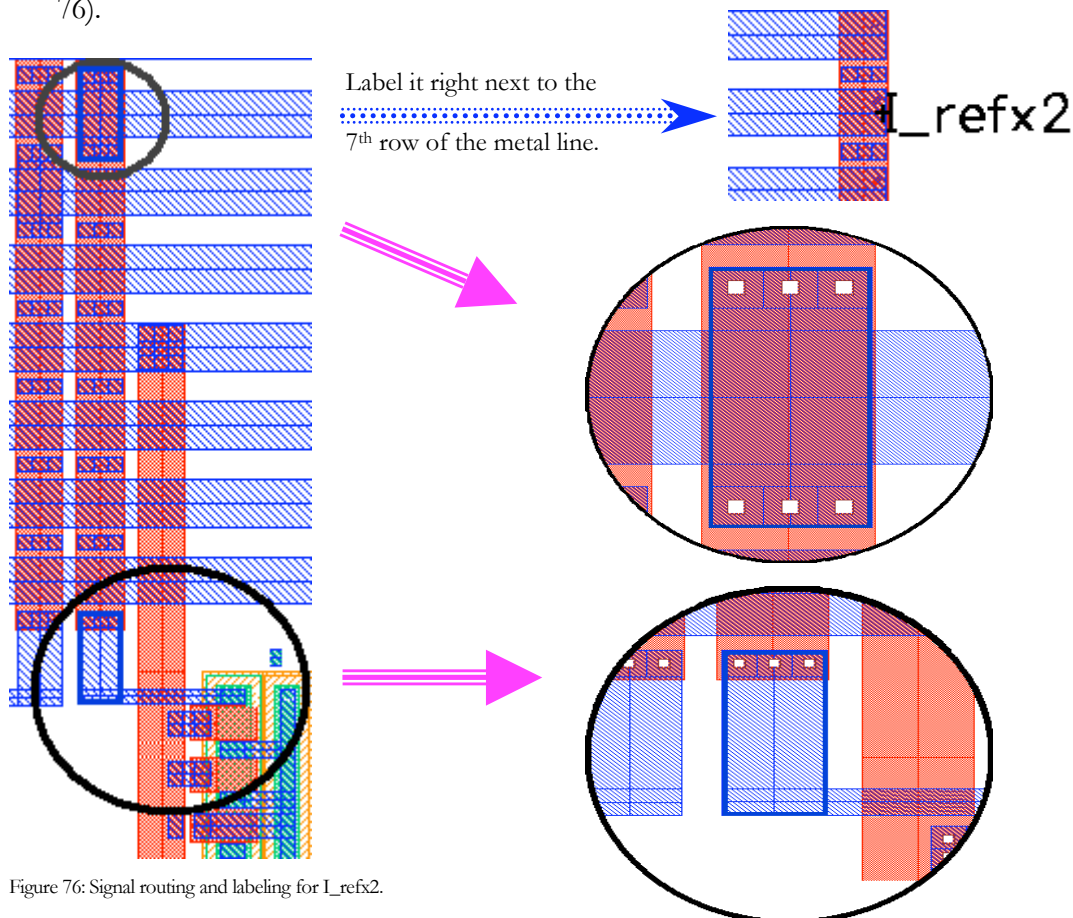

Figure 76: Signal routing and labeling for I_refx2.
16. Repeat step 12 to 15 for the next leaf, which according to the Bubble Schematic is **I_refx2** (Figure 76). Remember to create a label right next to the 7th row of metal line for it (Figure 76).